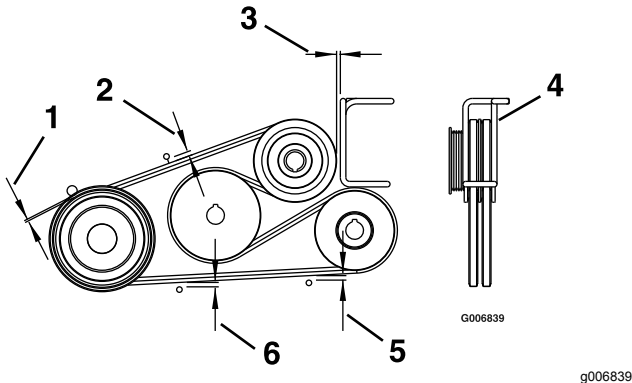

Figure 59
4. Adjust the belt guides as shown in Figure 59.